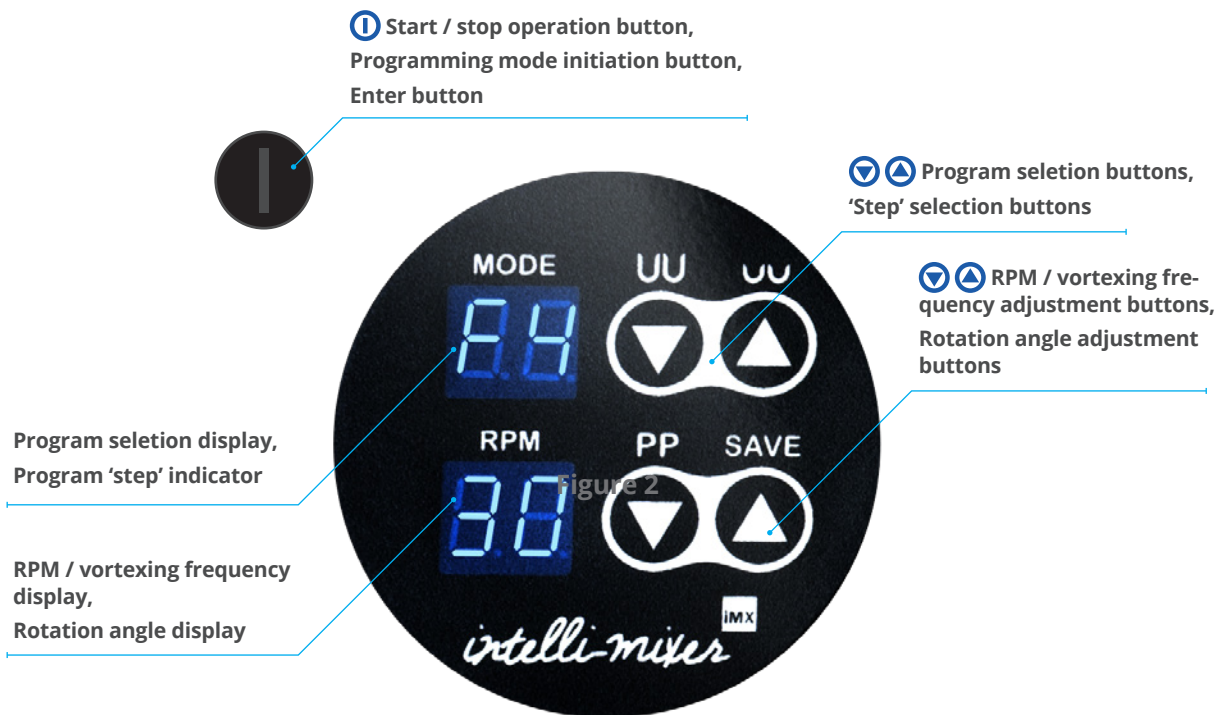

Figure 3
- 1.3 Pressing clockwise rotation button **↻** set 50 value on **RPM** indicator, that corresponds to 180 degrees (see Fig. 3).
- 1.5 Pressing counter clockwise rotation button **↺** turn the rack until 75 value on **RPM** indicator, that corresponds to 270 degrees (see Fig. 3).
- 2.3 Pressing clockwise rotation button **↻** set 50 value on **RPM** indicator, that corresponds to 180 degrees (see Fig. 3).
- 2.8 Pressing counter clockwise rotation button **↺** turn the rack until 75 value on **RPM** indicator, that corresponds to 270 degrees (see Fig. 3).
- 3.6. Pressing counter clockwise rotation button **↺** turn the rack until 75 value on **RPM** indicator, that corresponds to 90 degrees (see Fig. 3).
- 3.13. Pressing clockwise rotation button **↻** turn the rack until 25 value on **RPM** indicator, that corresponds to 180 degrees (see Fig. 3).